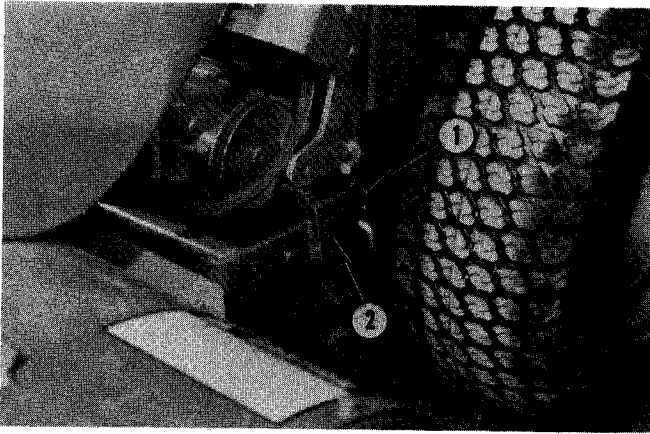

Fig. 11 - TRANSPORT HEIGHT STOP
1. Raise Tiller until stop bar contacts mounting bracket and block up securely, Fig. 11.